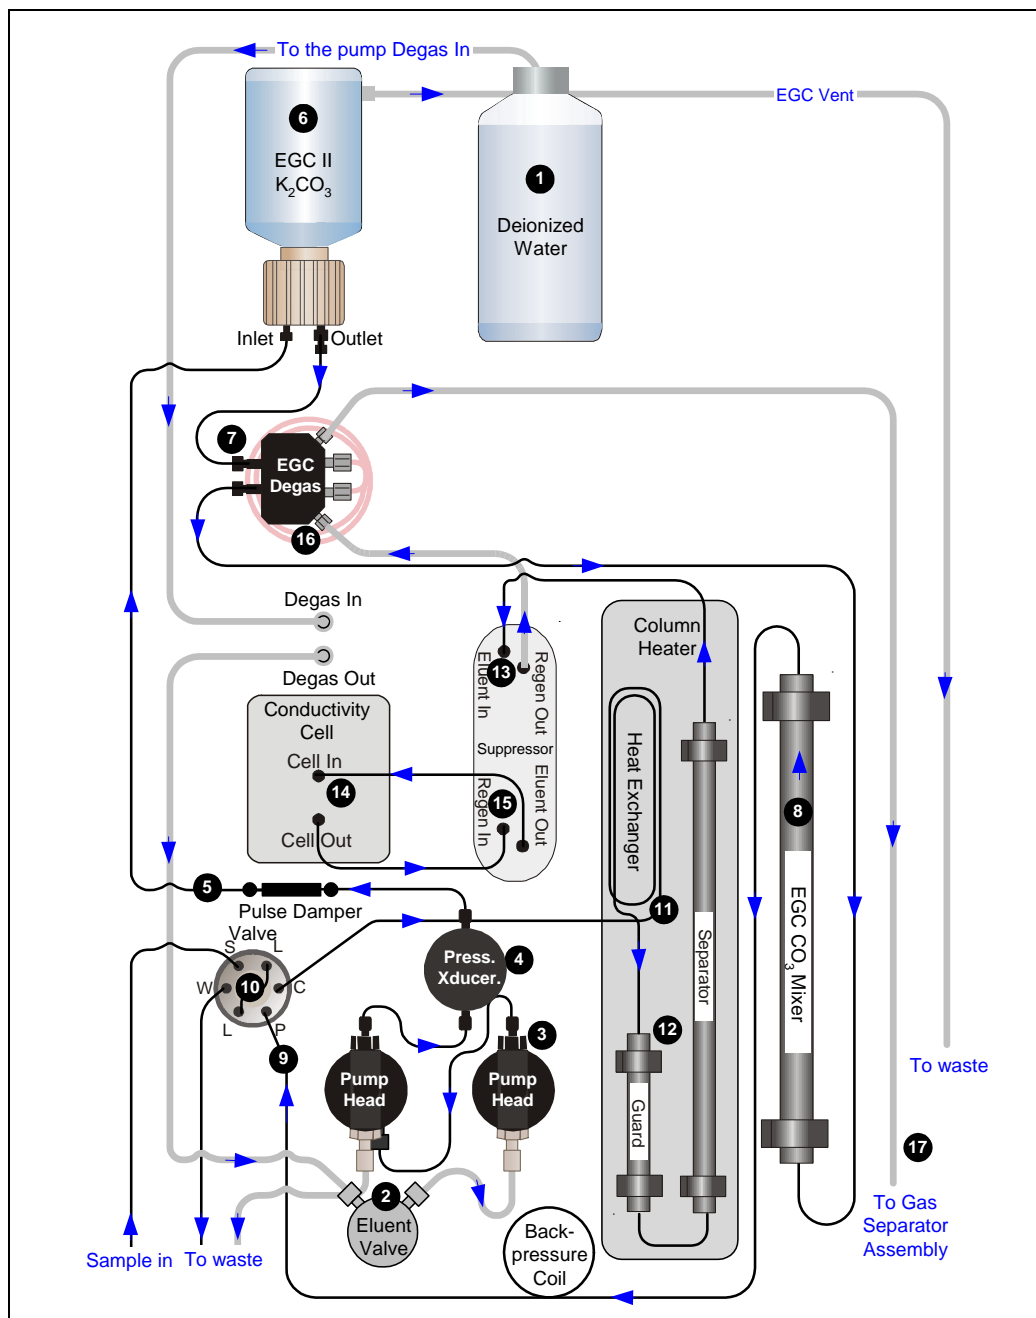

Figure 2-15. ICS-2000 Flow Schematic: Carbonate Eluent Generation
- Figure 2-15 illustrates the liquid flow path when the components required for producing carbonate eluent are installed. The required components include an EGC II K2CO3 EluGen Cartridge and an EGC CO3 Mixer.
Refer to Figure 2-15 for the flow path number locations.